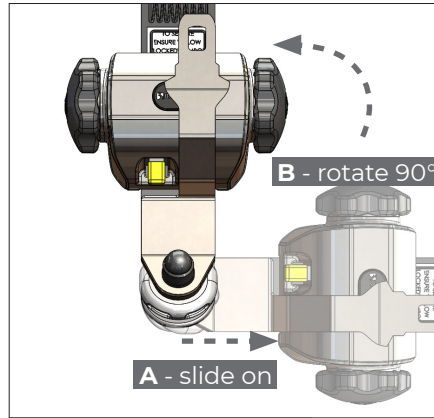

Figure 12
2. Install each front retractor cleat onto a front Solo anchor by aligning the open mouth of the cleat and the protrusion, (Fig. 11C), to the slot on the floor anchor. Slide the cleat fully home, (allowing the keyway within the cleat to guide into its home position, Fig. 11A & B), and rotate the cleat through 90° to align the retractor with the wheelchair frame, (Fig. 12).